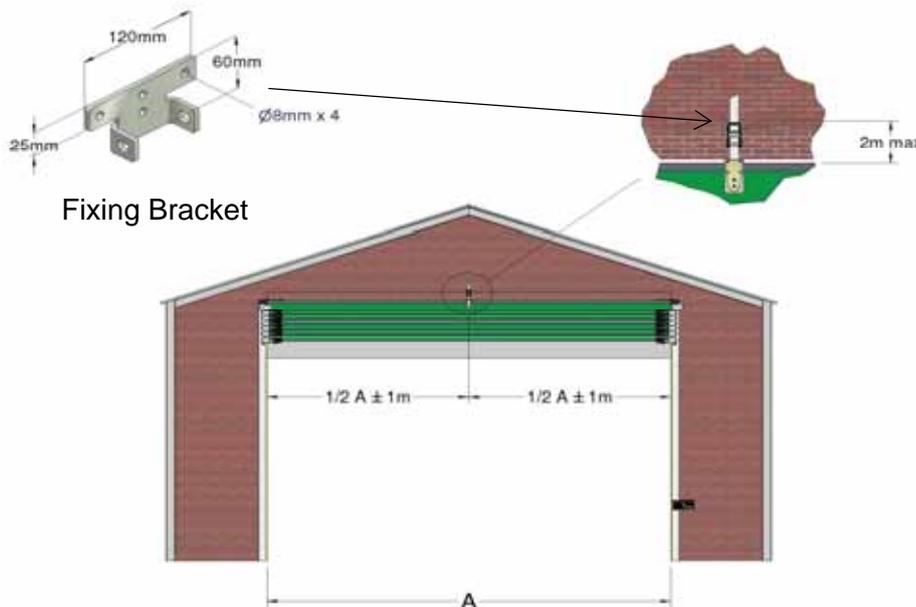

Figure 8a
8. Lifting Cable and Panel Support: Additional support(s) for the panel and lifting cable is supplied for doors over 10m wide in accordance with Table 2. See Figures 8a and 8b. The inset drawing shows the footprint of the fixing bracket is 120 x 60mm.